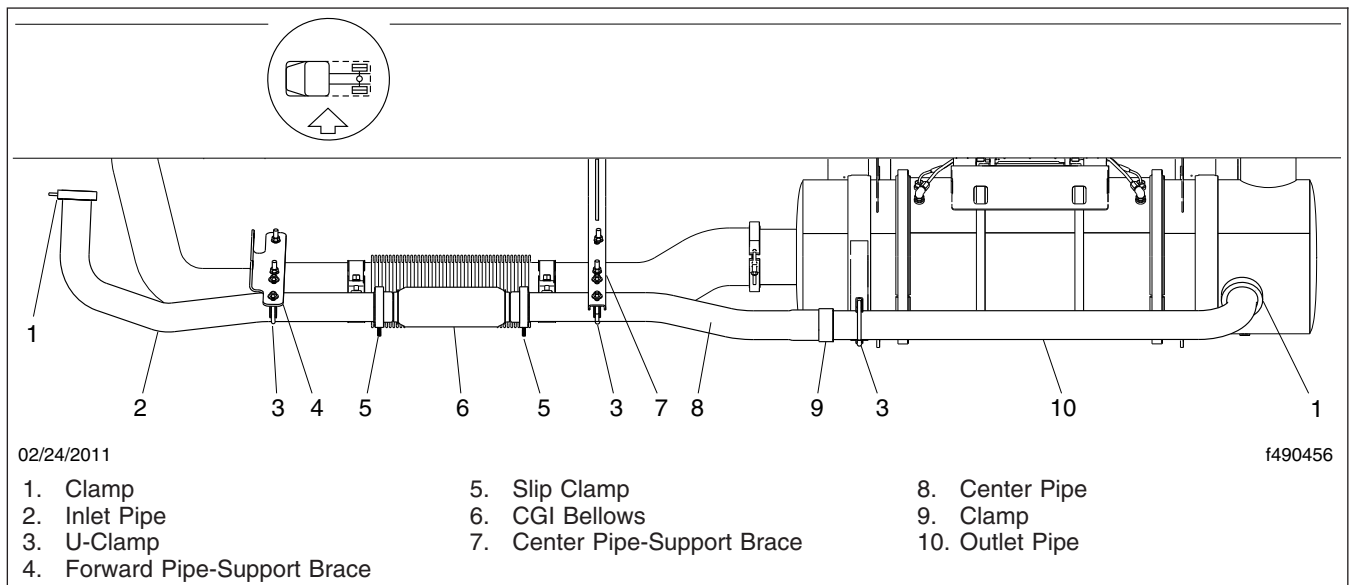

Fig. 5, CAT EPA07 Exhaust Installation with CGI Bellows
3. On vehicles with CAT engines, inspect the CGI bellows and piping for evidence of damage or leakage. See **Fig. 5**. If the bellows is damaged or leaking, replace it. See **49–02** for the replacement procedure.